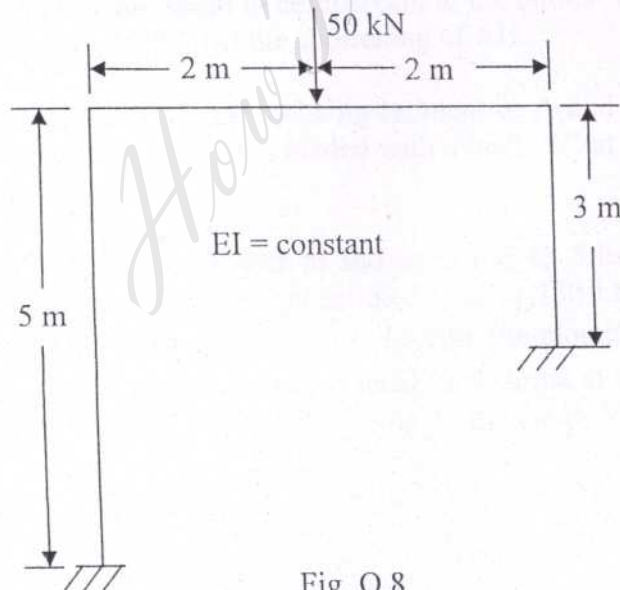

Fig. Q.8
- Q. 8) Analyze the frame shown in Fig. Q. 8 by either the Slope Deflection Method or the Moment Distribution Method. Find the amount of sway in the frame, calculate the moments at the joints and draw the B. M. diagram.